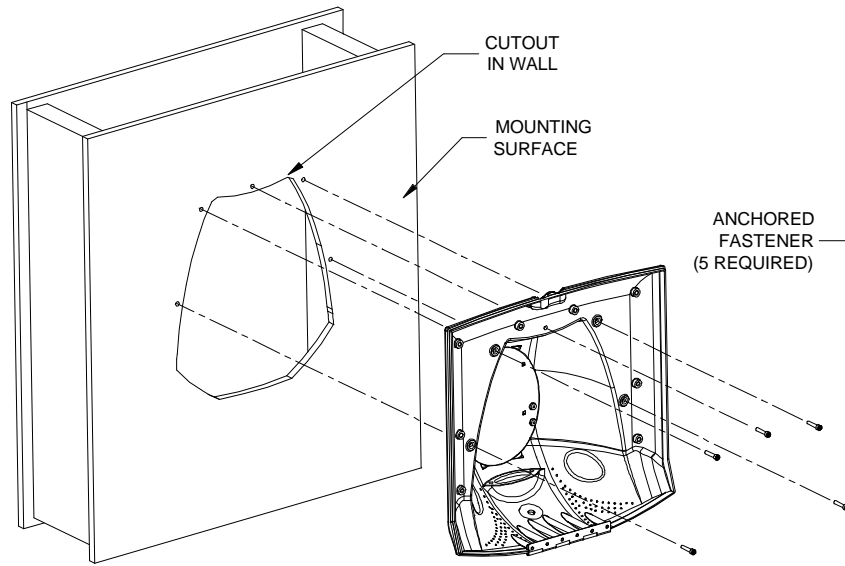

FIGURE 4A - VIBE WITH BILL ACCEPTOR - FLUSH WALL MOUNTING OF TERMINAL
4. Route the wires from the back of the terminal through the cutout in the wall and secure the terminal to the wall with sufficient hardware to support the weight of the terminal (22 pounds for Vibes with bill acceptors and 50 pounds for Vibes with coin). See Figures 4A for Vibes with bill and 4B for Vibes with coin.